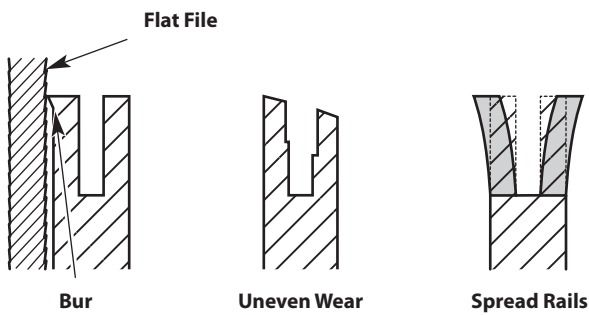

Fig. 21
3. Frequently check the guide bar for damage (Fig. 21). Feathering and burring of the guide bar rails (the ridges on either side of the bar groove) is a normal process of guide bar wear. Such faults should be smoothed with a file as soon as they occur (Fig. 21). A guide bar with the following faults should be replaced: